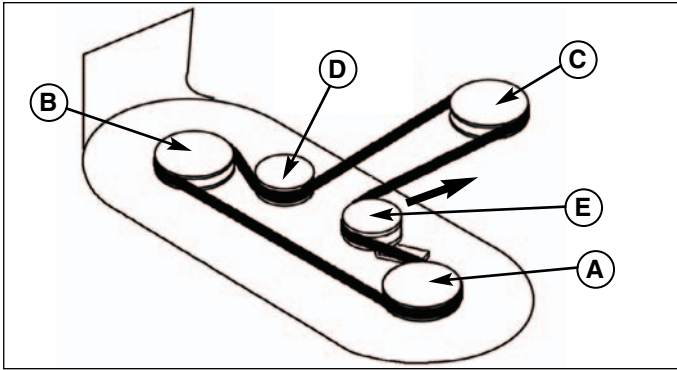

Figure 34. Mower Belt Routing - 38" & 42" Decks
3. Pull back firmly on the belt tensioning idler (E, Figure 34) in the direction indicated, and remove the belt from the left arbor pulley (A).
6. Reversing steps 3 - 5, install the new belt, following the routing in Figure 34. Be sure to retighten the idler pulley hardware (if applicable).